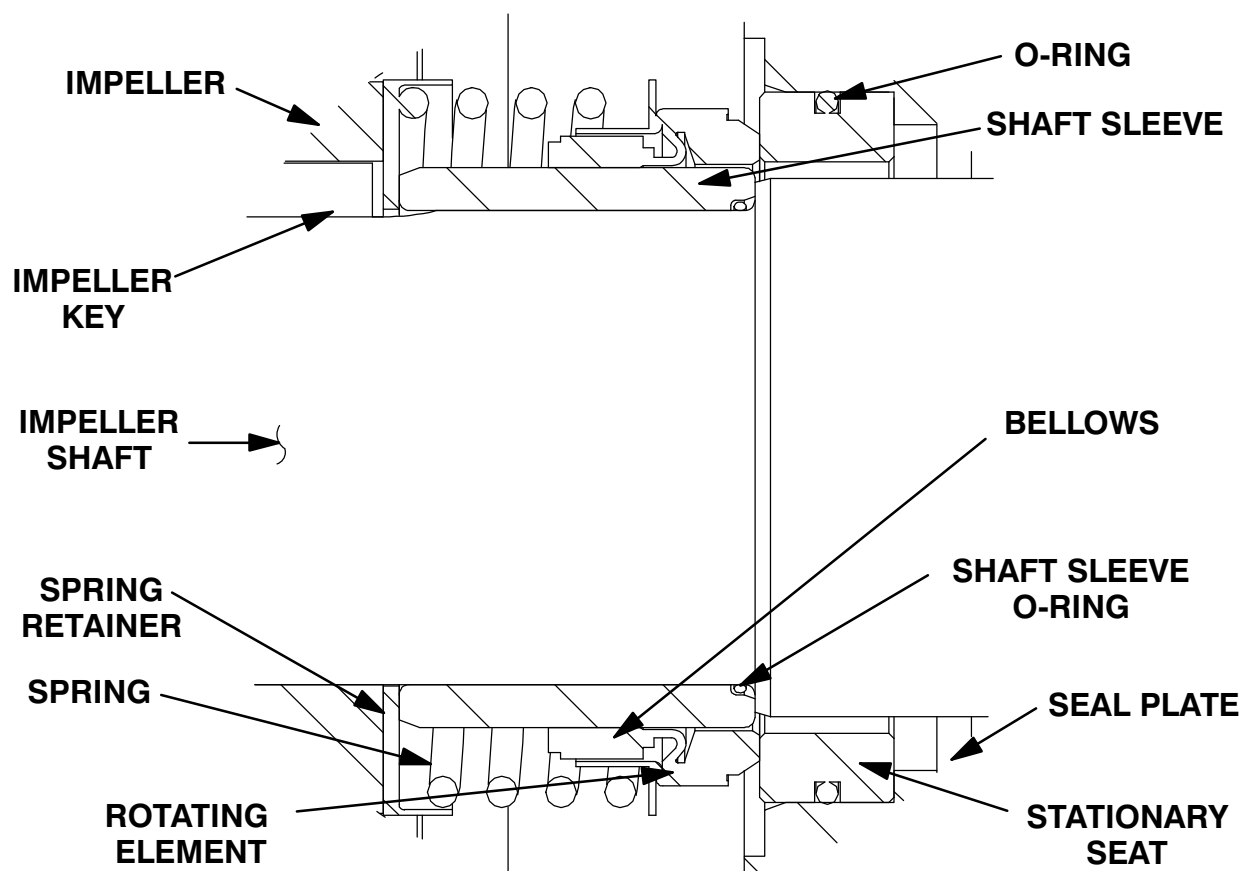

Figure 4. Seal Assembly
To ease installation of the seal, lubricate the stationary seat O-ring, the I.D. of the bellows and the O.D. of the shaft sleeve (5) with "P-80® Emulsion" or water. **Do not** use oil or any substitute lubricant other than water. Apply a drop of light lubricating oil on the finished faces. Assemble the seal as follows, (see Figure 4).